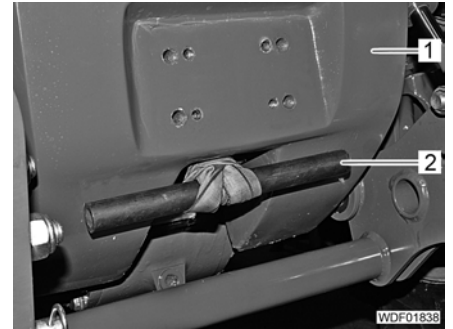

Fig. 460 Fixing of the rear weight
- Pull suitable lifting gear through the rear weight (Fig. 460,1) and secure with a shaft (Fig. 460,2) ( $\varnothing$  approx. 25 mm).
- Attach rear weight (Fig. 460,1) using suitable aid (Fig. 460,2) (e.g. shaft  $\varnothing$  25 mm).